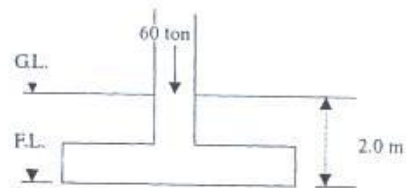

Fig. 3
I- Fig.3 shows the layout of stair-case in plan. The allowed supports of stair slabs are semell and RC wall as shown figure. The landing carries half brick wall at its end as shown in section I-I. It is required to carry out the following:
b) If the design moment is (16 t.m), normal force is (4.0 t) and the shear is (20 t) in the upper left connection of Fig. (3-a), design the connection (shown in Fig. 3-b) using the given data and design aids. Assume that the top flange connection resists the moment and the web connection resists the shear.